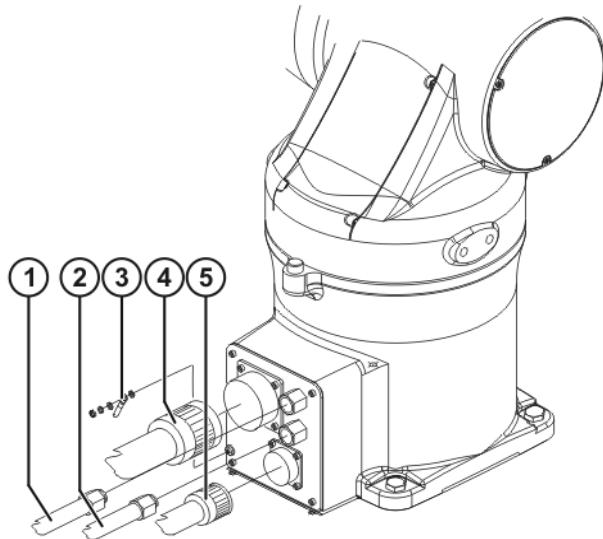

Fig. 8-2: Connecting a floor-mounted robot
10. Connect the ground conductor (>>> Fig. 8-2) using M5 hexagon nuts, washers and a lock washer.